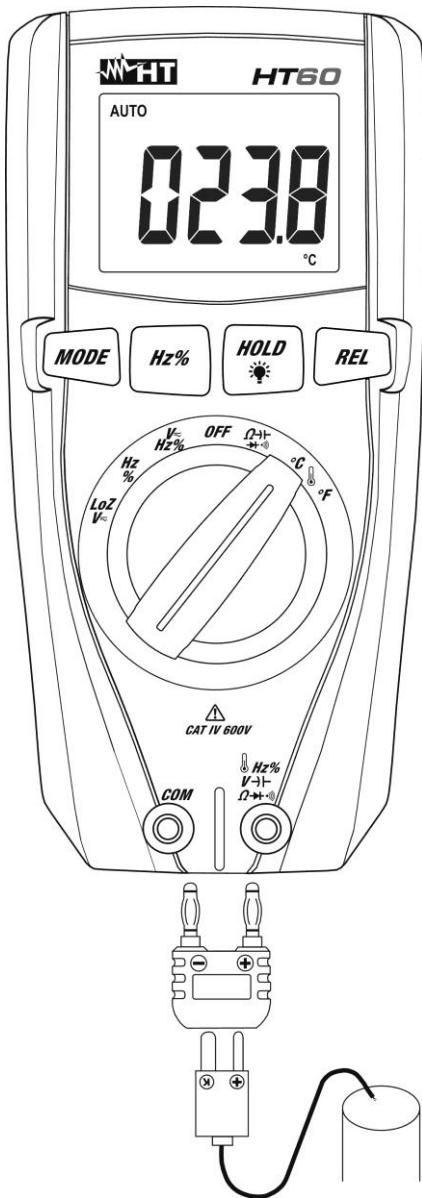

Fig. 9: Use of the instrument for Temperature measurement
2. Insert the provided adapter into input terminals **Hz%V→Ω►** (polarity +) and **COM** (polarity -) (see Fig. 9).